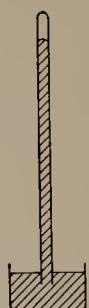

FIGURE 2.11 Barometer. The mercury in the tube will stand at about 30 in. above the surface of the mercury in the dish at an atmospheric pressure of 15 psi.
1. Barometer. The mercury barometer is another device that utilizes a vacuum. You can make a barometer by filling a long tube with mercury and then closing the end. Next, turn the tube upside down, and put the end in a dish of mercury. Now, open the end. Some of the mercury will run down out of the tube, leaving the upper end of the tube empty (a vacuum). (See Fig. 2.11.)